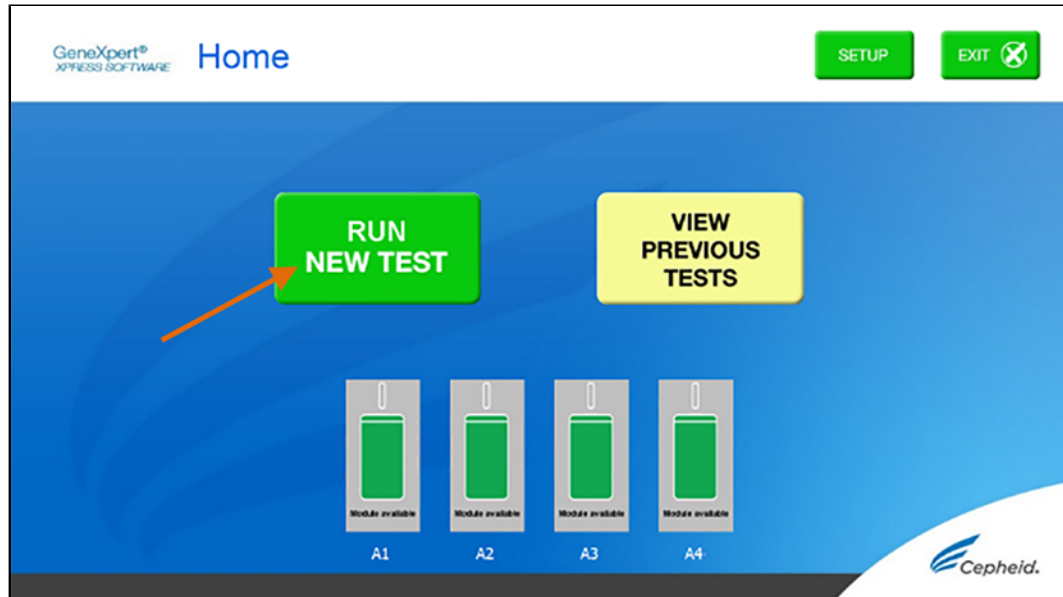

Figure 7. RUN NEW TEST button on Home Screen (GeneXpert Xpress IV screen shown)
1. Put on a new pair of gloves if performing a new test. Touch the **RUN NEW TEST** button on the **Home** screen (see Figure 7) to run a patient specimen or an external control.